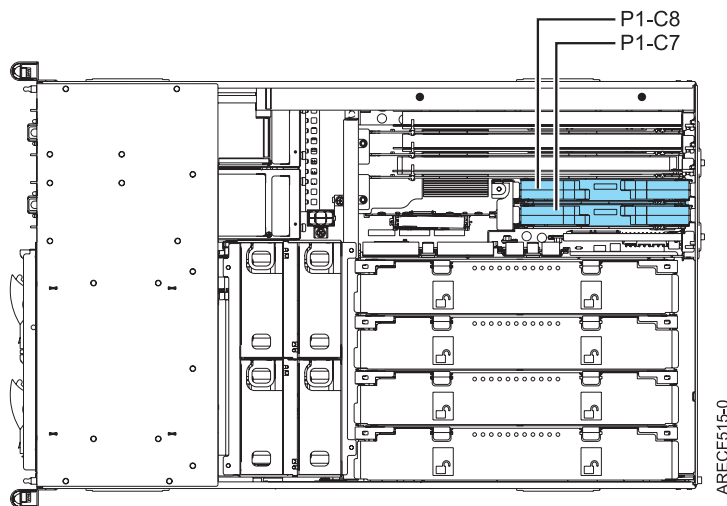

Figure 1. Top view of slots P1-C7 and P1-C8
8. Locate the appropriate slot in which to install the GX adapter. If there is only one processor card, you must use a Feature Code (FC) 5616 (GX+) adapter and choose slot P1-C8 as shown in Figure 1. If two processor cards are installed, P1-C7 also supports a GX adapter. To use the FC 5609 (GX++) DDR adapter, two or more processor cards are required.